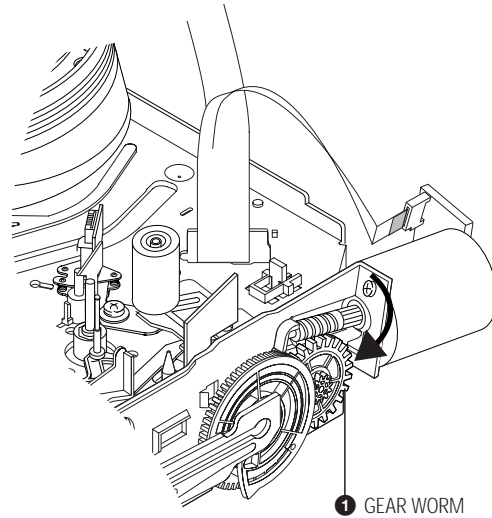

Fig. 2-42
- 3) Rotate Gear Worm **1** clockwise using screw driver again up to the state of eject mode and then pick out the tape. (Refer to Fig.2-42)